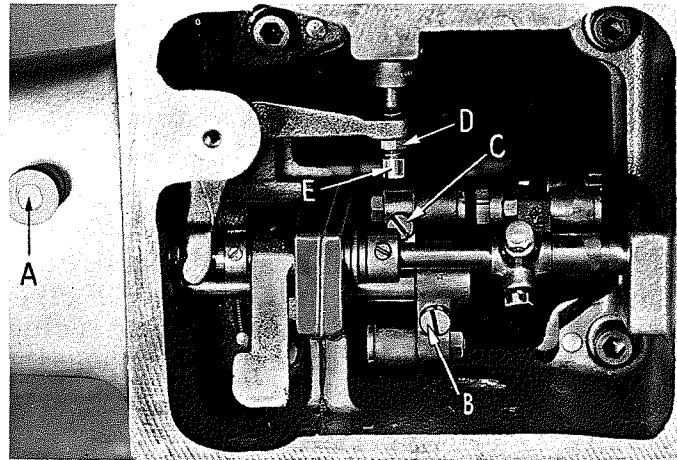
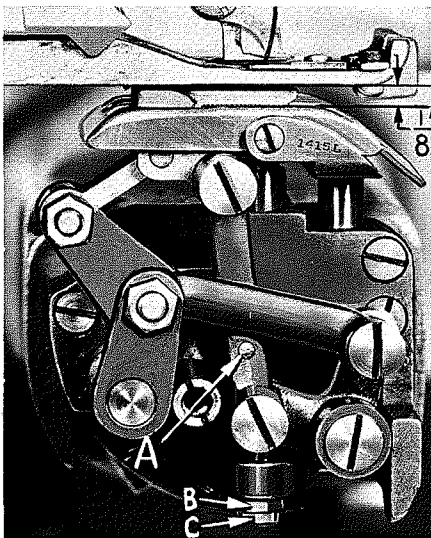
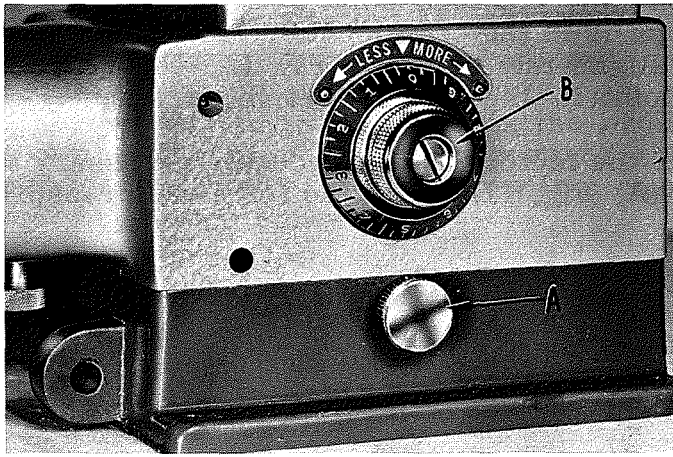
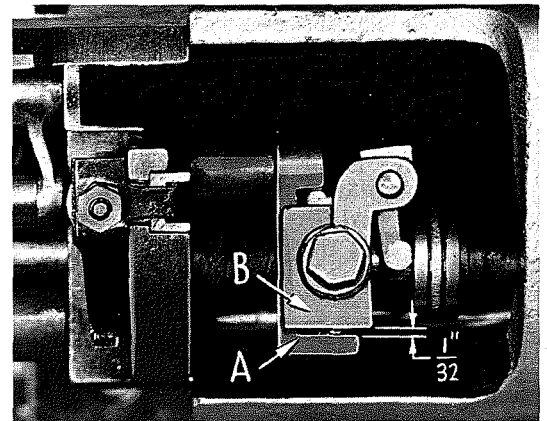

Fig. 11
Fig. 12
Fig. 13
Fig. 14
The feed plate pressure is adjusted at the factory. If it becomes necessary to change the pressure, turn knurled screw (A, Fig. 11) clockwise for more pressure and counterclockwise for less.
Turn the handwheel in operating direction until the feed point reaches its highest position and the feed plate reaches its lowest position. At this point, there should be  $1/8$  inch space between the top of the feed plate and the bottom of the presser foot (Fig. 12). To obtain this adjustment, loosen the machine base locking screw (A, Fig. 13) and lay the machine on its back. Then, loosen screw (B, Fig. 11) and hold link (A, Fig. 12) so that the feed point is pressed up against the bottom of the presser foot. Turn the handwheel in operating direction until the feed point reaches its most forward position, and retighten screw (B, Fig. 11).
Turn the handwheel in operating direction until the feed point first touches the presser foot. At this point, the front edge of the feed point should be aligned with the front edge of the knurling on the feed plate. To make this adjustment, loosen screw (C, Fig. 11), and by means of link (A, Fig. 12), move the feed point forward or backward as required. Retighten screw (C, Fig. 11). If, in this adjustment, the feed point has to be moved an appreciable distance, repeat the adjustment "Setting The Feed Point Height" in the previous instructions.
The height of the plunger is adjusted by turning the knob (B, Fig. 13) clockwise to raise the plunger and counterclockwise to lower it. To provide for the maximum plunger adjustment, there should be  $1/32$  inch clearance between plunger crank (A, Fig. 14) and the plunger block (B) when the adjusting knob (B, Fig. 13)
is turned clockwise as far as it will go. Note that there are pins which stop the knob (B) after each complete revolution. The knob may be pulled out toward the operator to lift it over the stop. The knob can make three complete revolutions. To make the  $1/32$  inch adjustment, turn the knob clockwise as far as it will go. Loosen locknut (D, Fig. 11) and turn screw (E) in the required direction. Retighten nut (D). Setting is correct when the needle, on its stroke, to the right, just clears
the top of the plunger, with the adjusting knob in the maximum clockwise position. If after initial setting, further adjustment of height is necessary, it can be accomplished by turning nut (B, Fig. 12) and locknut (C) up or down as required. Check the adjustment so that the needle does not strike the plunger.